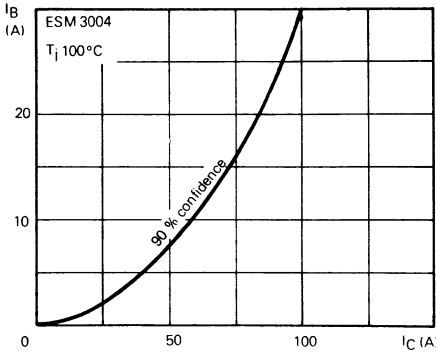

Fig.3 : Minimum base current to saturate the transistor.
**TURN-OFF SWITCHING CHARACTERISTICS - CARACTÉRISTIQUES DE COMMUTATION A L'OUVERTURE (Fig. 3)**